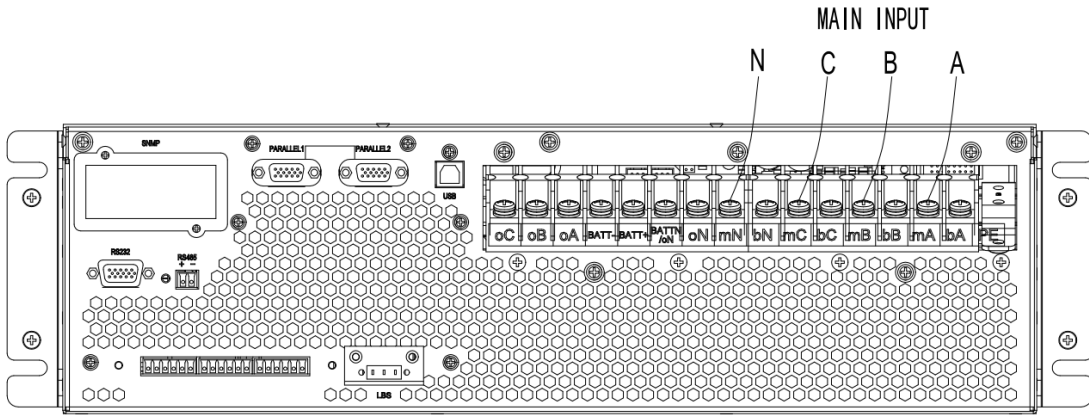

Fig. 3-13 Main line input connection diagram
- a. Remove all copper bars, connect input cable only(no bypass/output/battery).As shown in Figure 3-13: